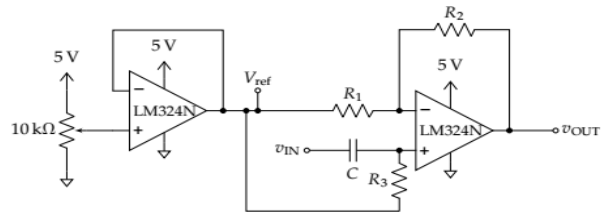

Figure 13.13: Corrected Single Supply High Pass Filter
7. EC: Construct the additional buffer circuit for  $V_{\text{ref}}$  shown in figure 13.13.